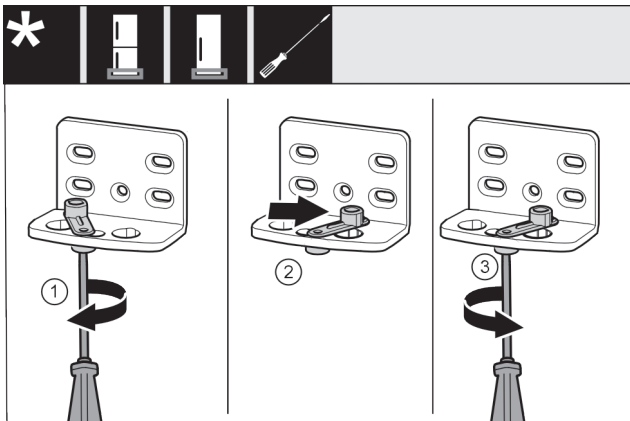

Fig. 28
- ▶ Use screwdriver to loosen the screw Fig. 28 (1).
- ▶ Lift the door closing aid Fig. 28 (2) and turn 90° clockwise in the hole.
- ▶ Tighten screw Fig. 28 (3) with screwdriver.